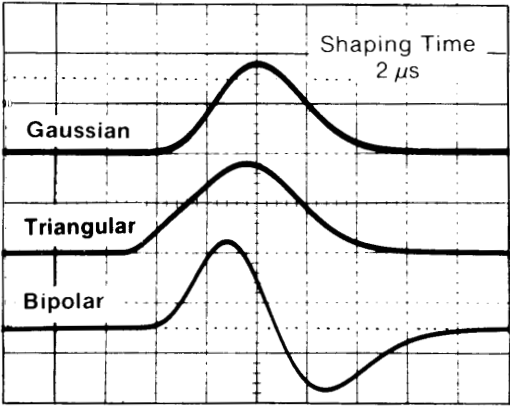

Fig. 1. Gaussian, Triangular, and Bipolar Output Pulse Shapes for a 2- μ s Shaping Time. Vertical scale, 5 V per division; horizontal scale, 2 μ s per division.
A front-panel switch on the Model 671 provides the choice of either a triangular or a Gaussian pulse shape on the UNI output connector (Fig. 1). The noise performance of the triangular pulse shape is equivalent to a Gaussian pulse shape having a 17% longer shaping time constant. In applications where the series noise component is dominant (short shaping time constants), and the pile-up rejector is utilized, the triangular shape will generally offer the same dead time and slightly lower noise than the Gaussian pulse shape. A front-panel switch permits selection of the optimum shaping time constant for each detector and application. Six time constants in the range of 0.5 to 10 μ s, and the TRI/
UNIPOLAR PULSE SHAPES Switch selection of a nearly triangular pulse shape or a nearly Gaussian pulse shape at the UNI output (Fig. 1, Table 1).
The Automatic Pole-Zero Adjustment feature significantly simplifies the tuning of the amplifier to compensate for the decay time of the preamplifier pulse. This minimizes the operator skill and effort needed to achieve good energy resolution and peak position stability at moderate to high counting rates (Fig. 1). When changing time constants or detectors, an accurate pole-zero (PZ) adjustment is achieved by simply pushing the AUTO PZ button and waiting a few seconds for the AUTO PZ BUSY LED to turn off. No oscilloscope is required for this procedure. The AUTO PZ memory is protected against power failures.
Fig. 1. Effectiveness of the Automatic Pole-Zero Feature. (a) An uncanceled pole produces an undershoot on the amplifier output pulse, which, in turn, causes (b) premature degradation of the resolution in the energy spectrum as the counting rate increases. (c) After pushing the AUTO PZ button, the undershoot is automatically removed, resulting in (d) better resolution at high counting rates. Measured on an ORTEC 16% detector.